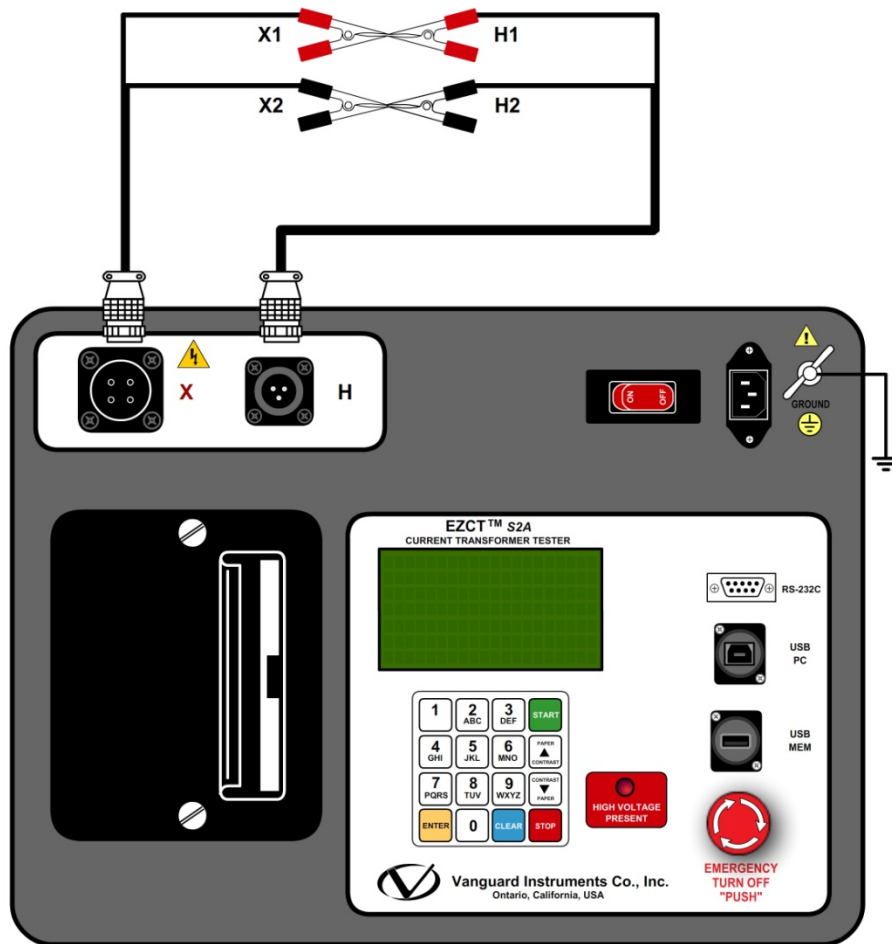

Figure 17. EZCT S2A Turns Ratio Verification Test Connections
- Connect the X1 test lead to the H1 test lead as shown in Figure 17.
- Connect the X2 test lead to the H2 test lead as shown in Figure 17.